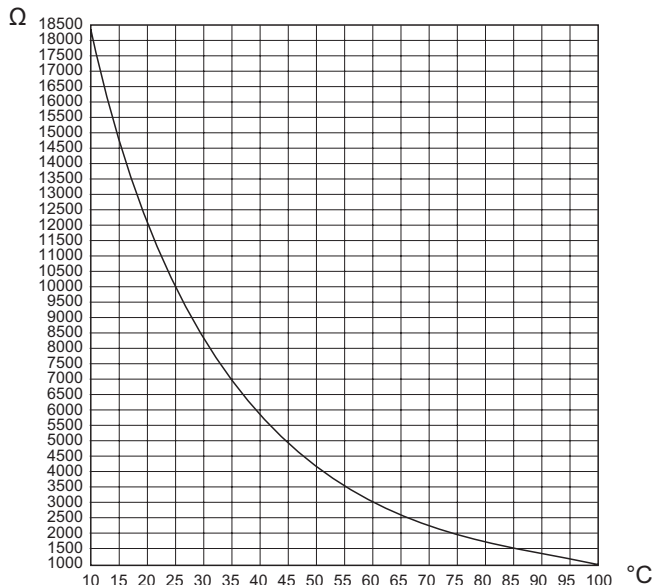

Figure 17.1
The relation between temperature and electrical resistance is stated in Figure 17.1.
- 3 For other temperatures of the probe check the electrical resistance according to the graph (Figure 17.1)